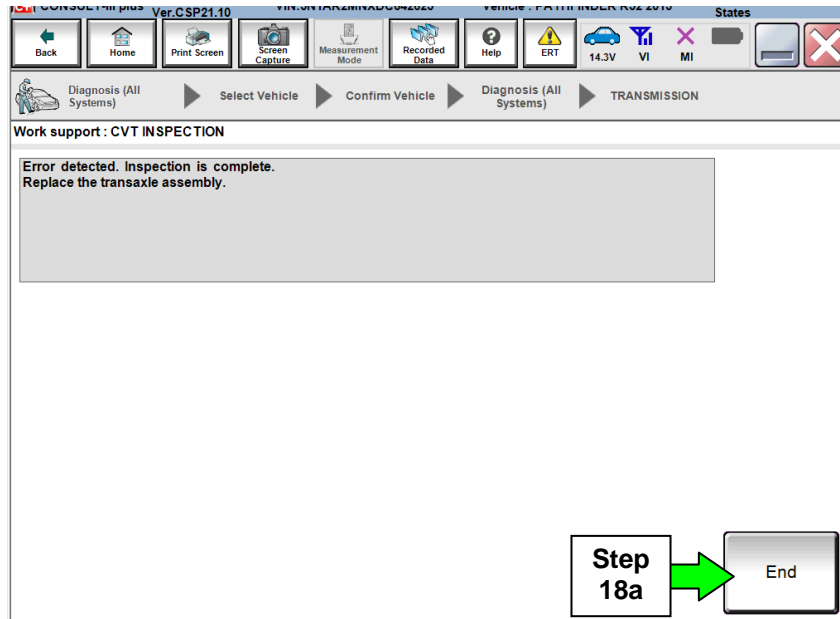

Figure 11
- a. If “**Error detected**” is displayed (Figure 11), CVT assembly replacement is indicated.
- Print the C-III plus screen (Figure 11) and attach it to the repair order.